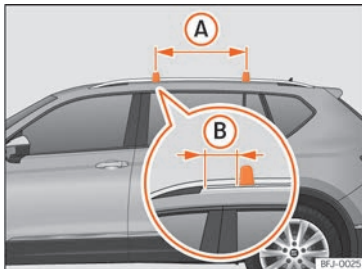

Fig. 138 Attachment points for the roof railings for the roof carrier system.
»» Fig. 138 (A) should be between 75 and 90 cm and the distance between the crossbars and the brackets of the roof railings (B) must be 15 cm.